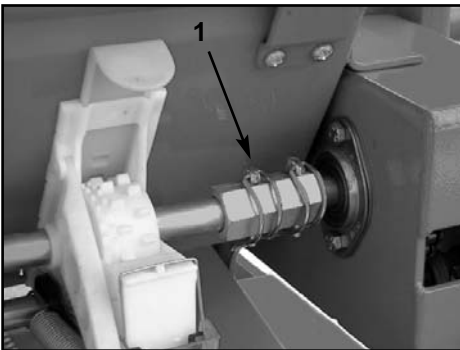

Fig 7
- 4 Check the **Sowing Chart** 'Hints' (Page 14) to see whether to connect or disconnect the agitator shaft by removing the lynch pins (1) during seeding (Fig 7).